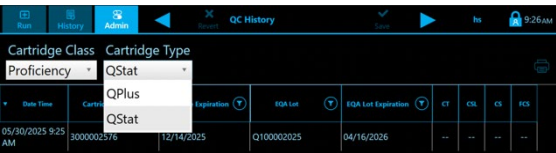

Figure 15. Step 5 Quantra Reference Screen.
5. Select **QPlus** or **QStat** from the **Cartridge Type:** Drop-Down Menu (Figure 15).